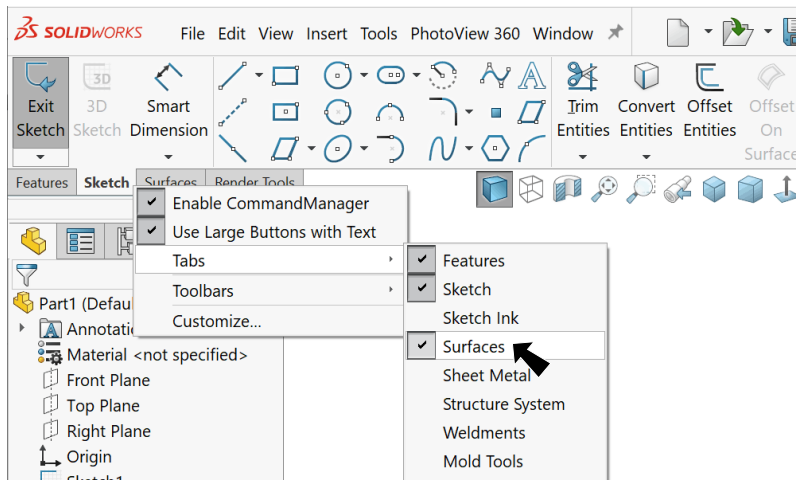

Fig. 5
Step 8. If necessary, turn on **Surfaces Command Manager**. To turn on, **right click Sketch** on the Command Manager toolbar select > Tabs > **Surfaces**, **Fig. 5**.